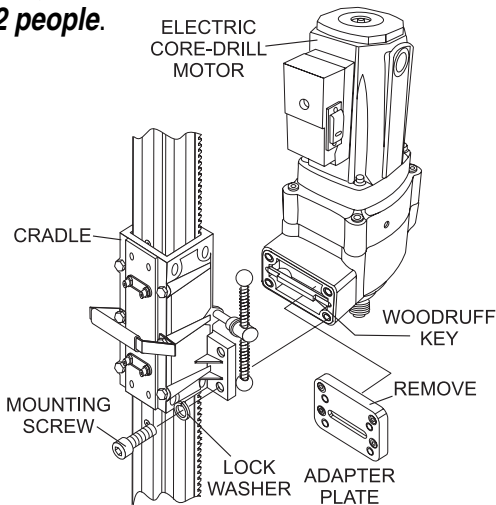

Figure 17. Attaching the Core Drill Motor to the Cradle
1. There may be an aluminum adapter plate (Figure 17) attached to the core drill motor. Remove this plate using a 6 mm allen wrench before attempting to secure the drill motor to the cradle. This adapter plate is intended to be used on other MQ drill rig stands.
2. The core drill motor can be secured to the cradle (Figure 17) by means of 4 retaining screws and lock washers. Use a 6 MM allen wrench to tighten the screws. Make sure to align the woodruff key on the drill base with the slot on the cradle.